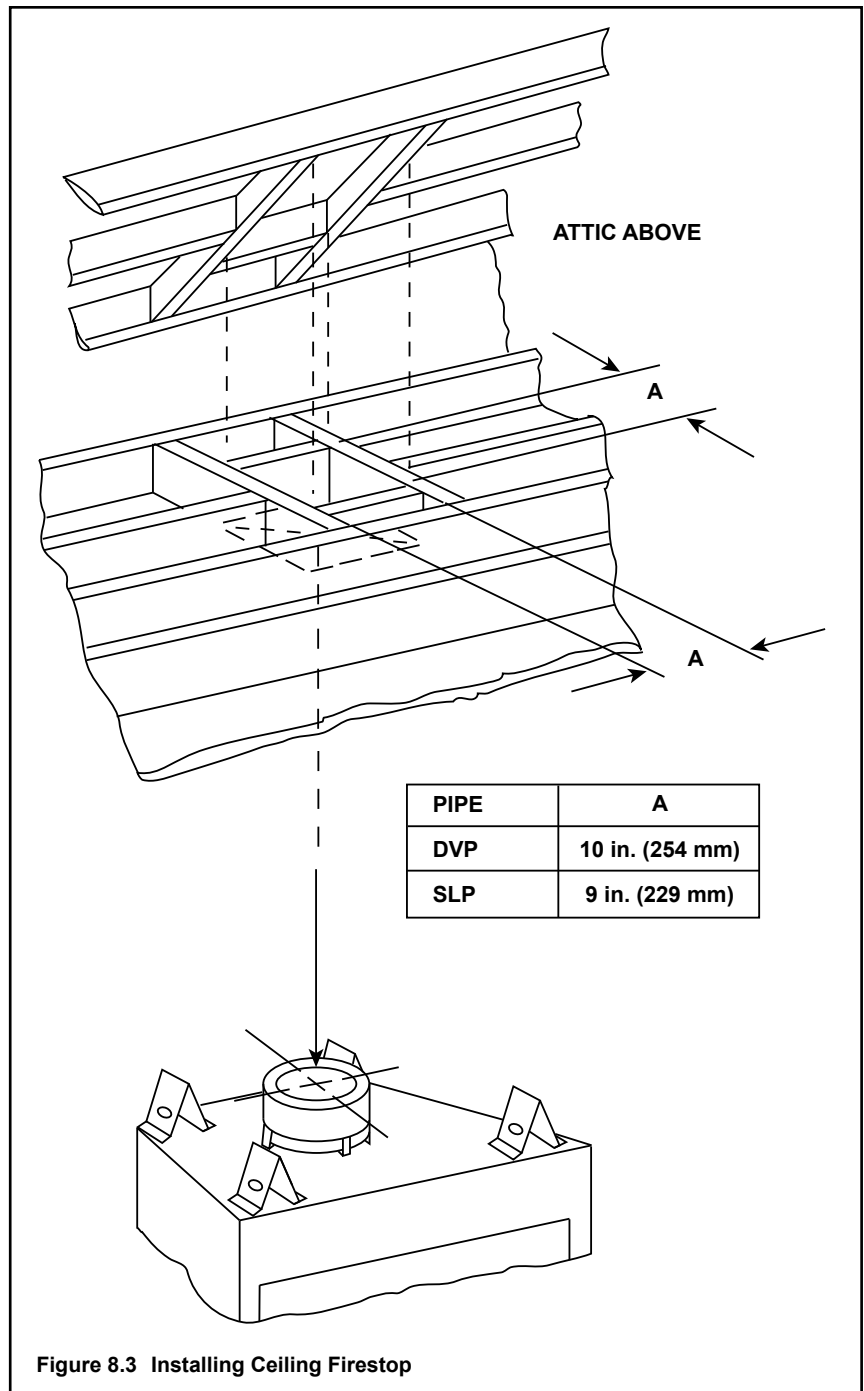

Figure 8.3 Installing Ceiling Firestop
- **DVP pipe only** - Frame an opening 10 in. by 10 in. (254 mm by 254 mm) whenever the vent penetrates a ceiling/floor (see Figure 8.3).
- **SLP pipe only** - Frame opening 9 in. x 9 in. (229 mm x 229 mm) whenever the vent penetrates a ceiling/floor (see Figure 8.3).